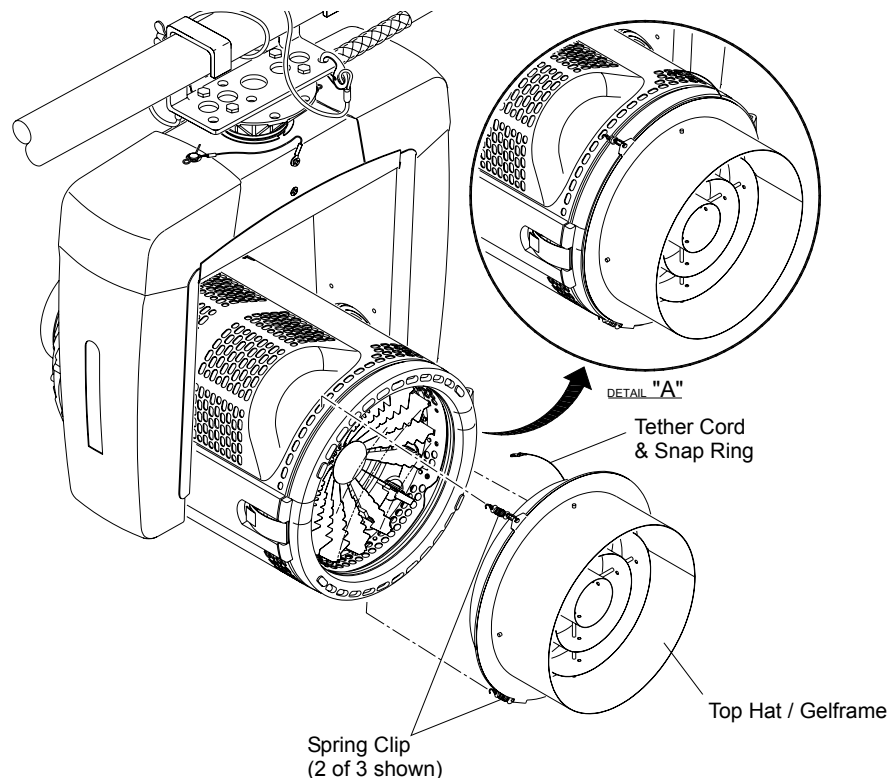

Figure 4-5: Tophat/Gelframe Installation
- Step 1. At front of luminaire, place tophat/gelframe over lens and secure to head covers with three spring-loaded clips (**Figure 4-5**).